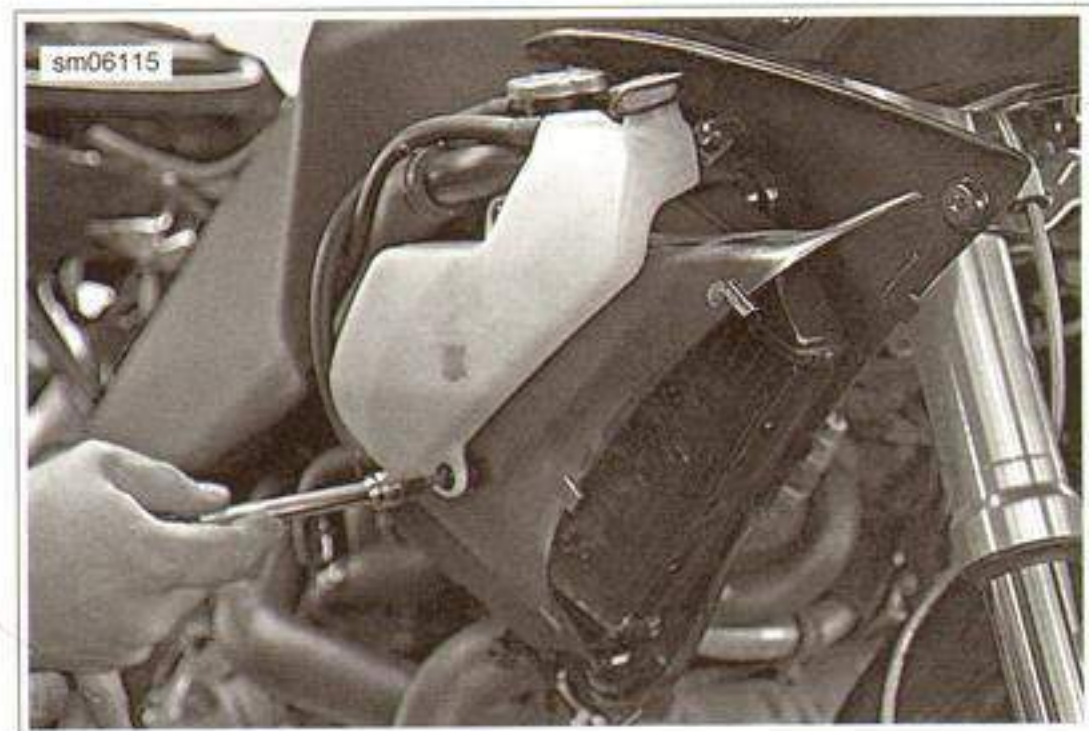

Figure 3-32. Remove Overflow Tank
- See Figure 3-32. In order to remove the inner radiator duct fasteners on the right side, it will be necessary to remove the overflow tank without disconnecting it.